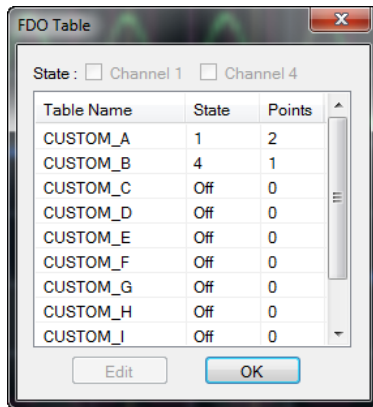

Figure 2-71 FDO Table dialog
- 2 The FDO Table dialog is displayed as shown in Figure 2-71 to allow you to select and configure the FDO table.